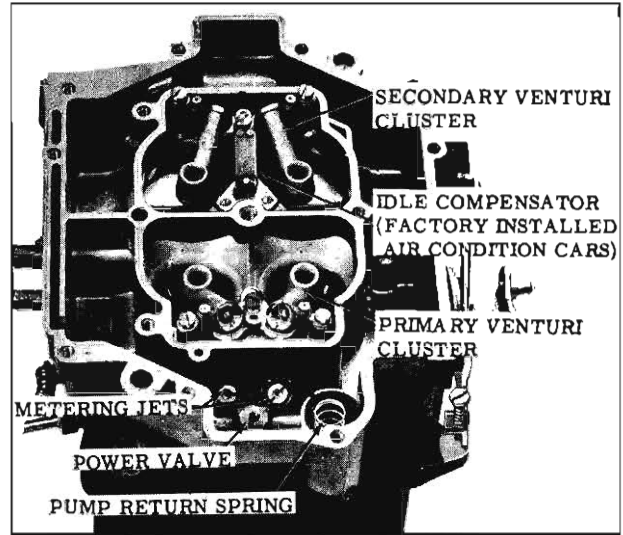

Fig. 4-161 Float Bowl Assembly
6. Install the power valve and gasket, and the two primary main metering jets. (Fig. 4-161)